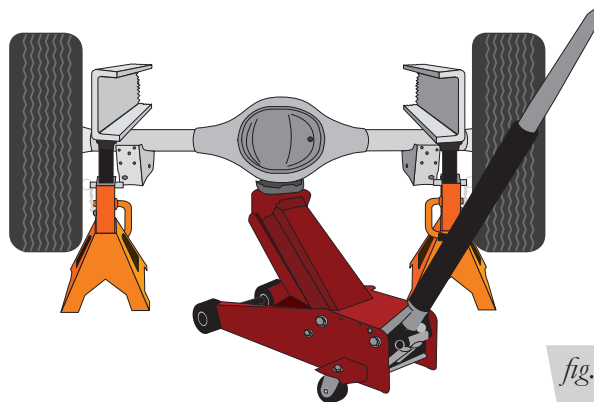

fig. D.1
1. Raise the vehicle and support it in a way, using safety stands or equivalent, that the axle can be safely dropped away from the frame. This will need to be done in order for the air spring assembly to be put into position between the axle and frame (Fig. D.1).